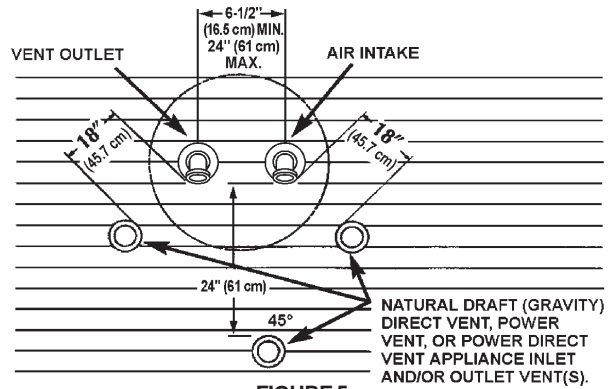

FIGURE 5.
- 18" (45.7 cm) minimum from other natural draft (gravity) direct vent, power vent or power direct vent appliance inlet and/or outlet vent(s) when directly above or 135° to either side of center line, see Figure 5.
- 24" (61 cm) minimum from any appliance inlet and/or outlet vents when directly below or 45° to either side of center line, see Figure 5.